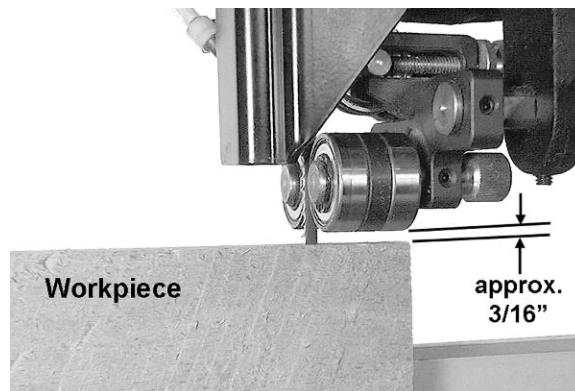

Figure 9-1
2. Adjust blade guide assembly so that the guide bearings are just above workpiece (about 3/16") allowing minimum exposure to blade. See Figure 9-1.